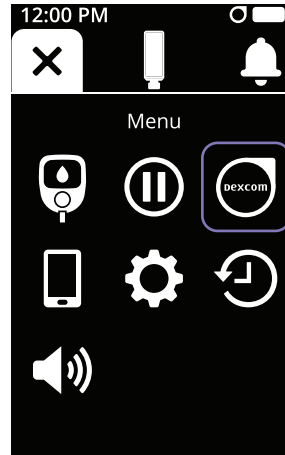

Figure 77
- b. Tap the **CGM** icon (see Figure 77)